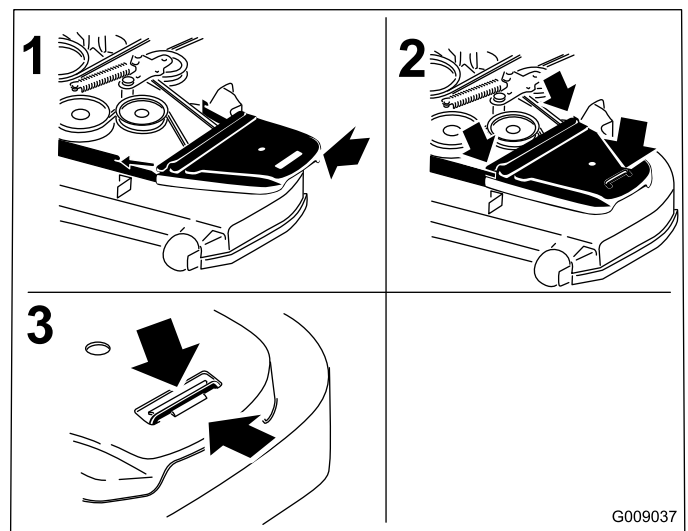

Figure 83
12. Install the belt covers (Figure 83).